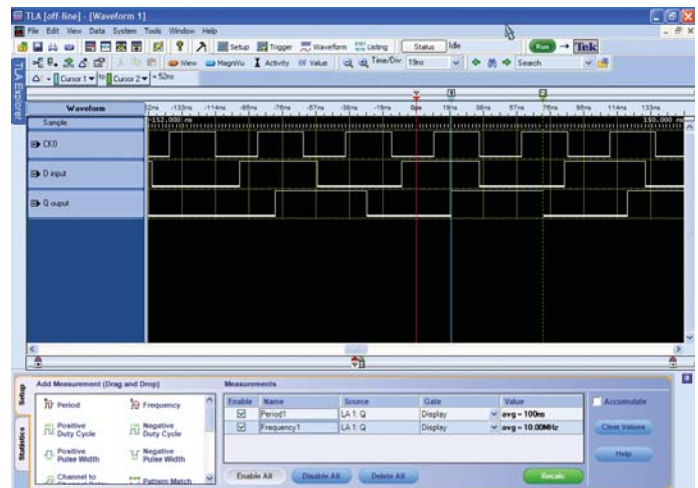

Figure 23. Sample rate in relation to resolution.
- Since the Y axis of the display denotes time, the subtractive difference between Cursor 2 and Cursor 1 is the time measurement. The result of 52 ns appears in the “Delta Time” readout on the display. The resolution of the measurement depends on the sample rate; in Figure 23 it is 2 ns as indicated by the ticks on the Sample track. Notice that the “Delta Time” measurement can not have a resolution greater than the sample rate.